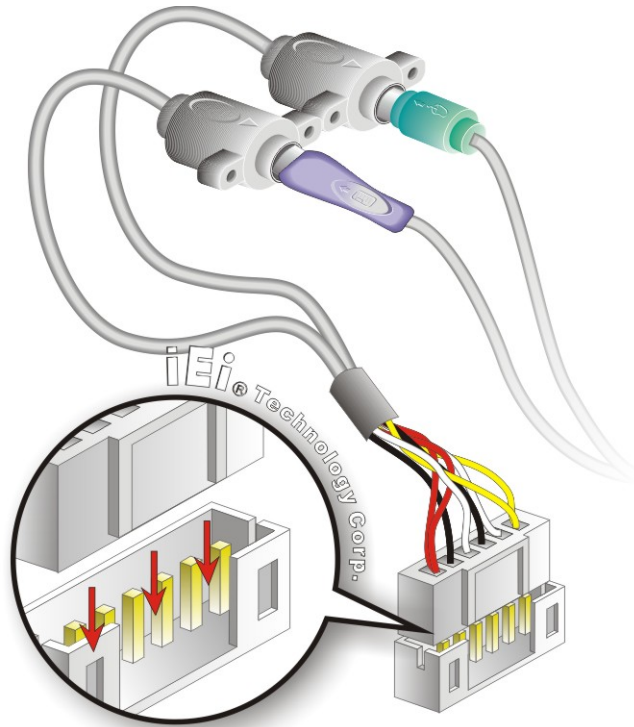

Figure 5-14: Keyboard/mouse Y-cable Connection
Step 2: Align the connectors. Correctly align pin 1 on the cable connector with pin 1 on the WAFER-9102 keyboard/mouse connector. See **Figure 5-14**.
Step 3: **Insert the cable connectors** Once the cable connector is properly aligned with the keyboard/mouse connector on the WAFER-9102, connect the cable connector to the on-board connectors. See **Figure 5-14**.